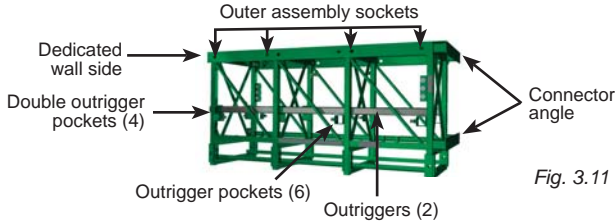

Fig. 3.11
- 6- Attach the bottom part of the bridge to the motorized unit using bridge link plates and pins sets (4) at the bearing setting (fig. 3.11).
- 7- **Tighten the nut and bolt assemblies** (4) at the top of the bridge to 100 lb-ft (136 N-m) of torque.